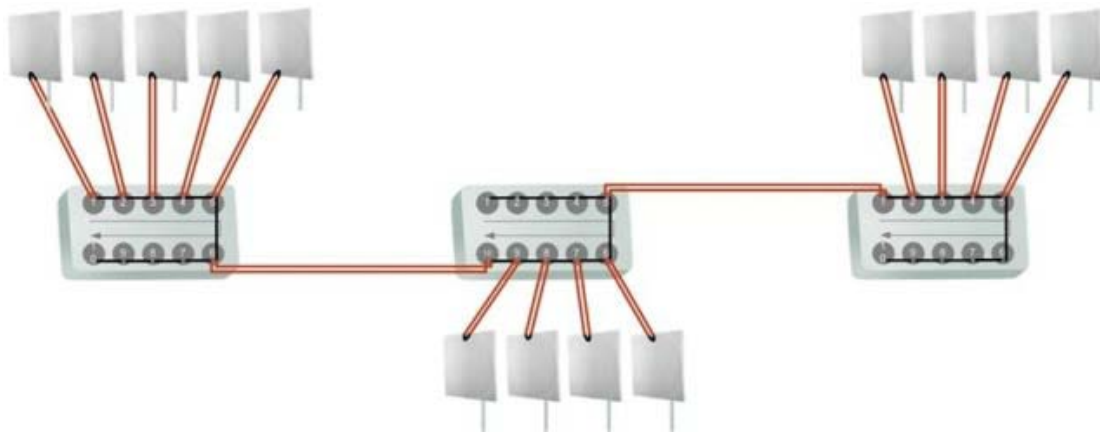

Figure 12-5: Cascading three HSS units
5. ODUs are connected to the third HSS unit from SYNC 2 as shown in Figure 12-5, in **ascending order**:
#### Three cascaded HSS units as shown in Figure 12-5